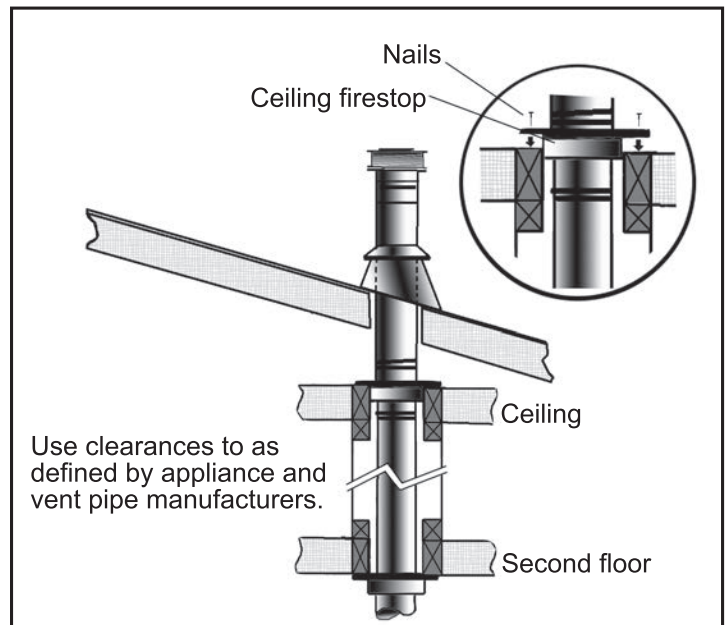

**Figure 34: Use of Wall Straps.**
- (1) If an offset is necessary in the attic to avoid obstructions, it is important to support the vent pipe every **3' (914 mm)**, to avoid excessive stress on the elbows, and possible separation. Wall straps are available for this purpose (see Figure 34).
- (2) When ever possible, use 45° degree elbows instead of 90° degree elbows. The 45° degree elbow offers less restriction to the flow of flue gases and intake air.